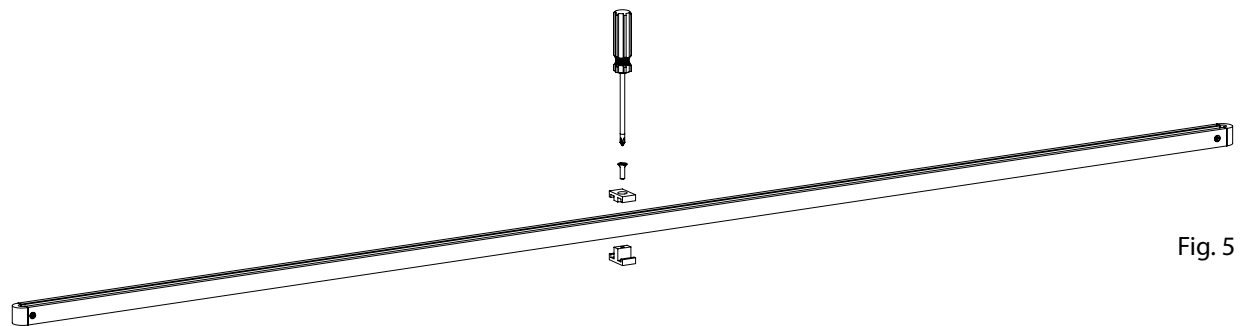

Fig. 5
2. If desired, the spacer clip can be removed using a Phillips screwdriver. (Fig. 5)